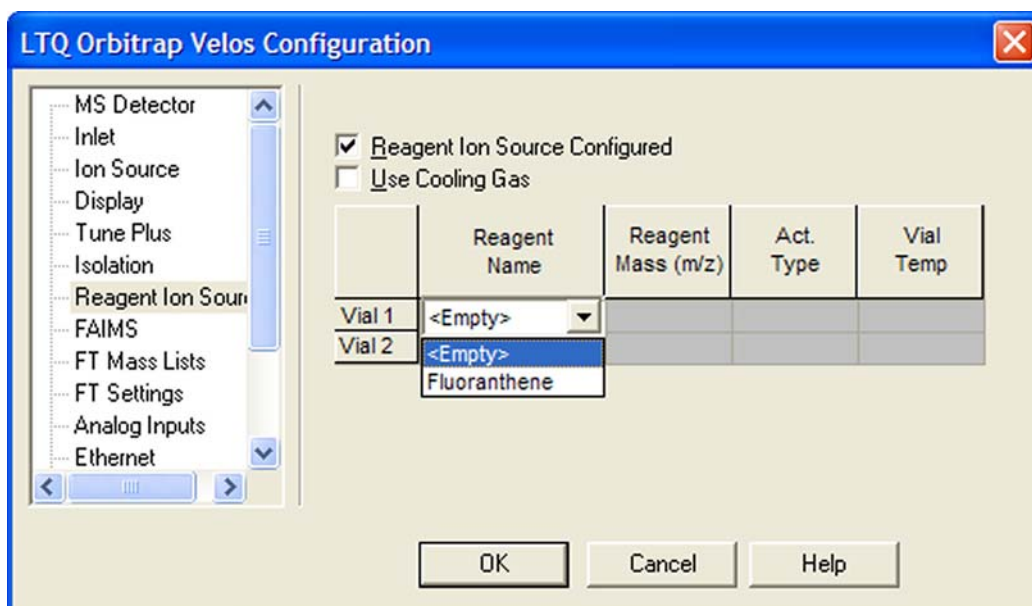

Figure 7-7. Enabling the reagent ion source
3. Click **Reagent Ion Source** in the left hand section of the LTQ Orbitrap Velos Configuration window. The Reagent Ion Source page of the Configuration dialog box allows configuring the reagent ion source and activating the cooling gas. See Figure 7-7.
4. Select the Reagent Ion Source Configured check box as shown in Figure 7-7.